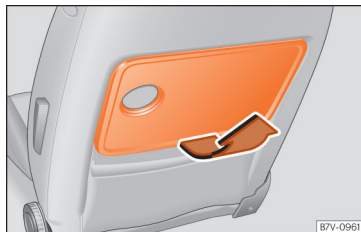

Fig. 163 Folding table on the front seat
- To open the tray, open it up in the direction of the arrow » **Fig. 163**.